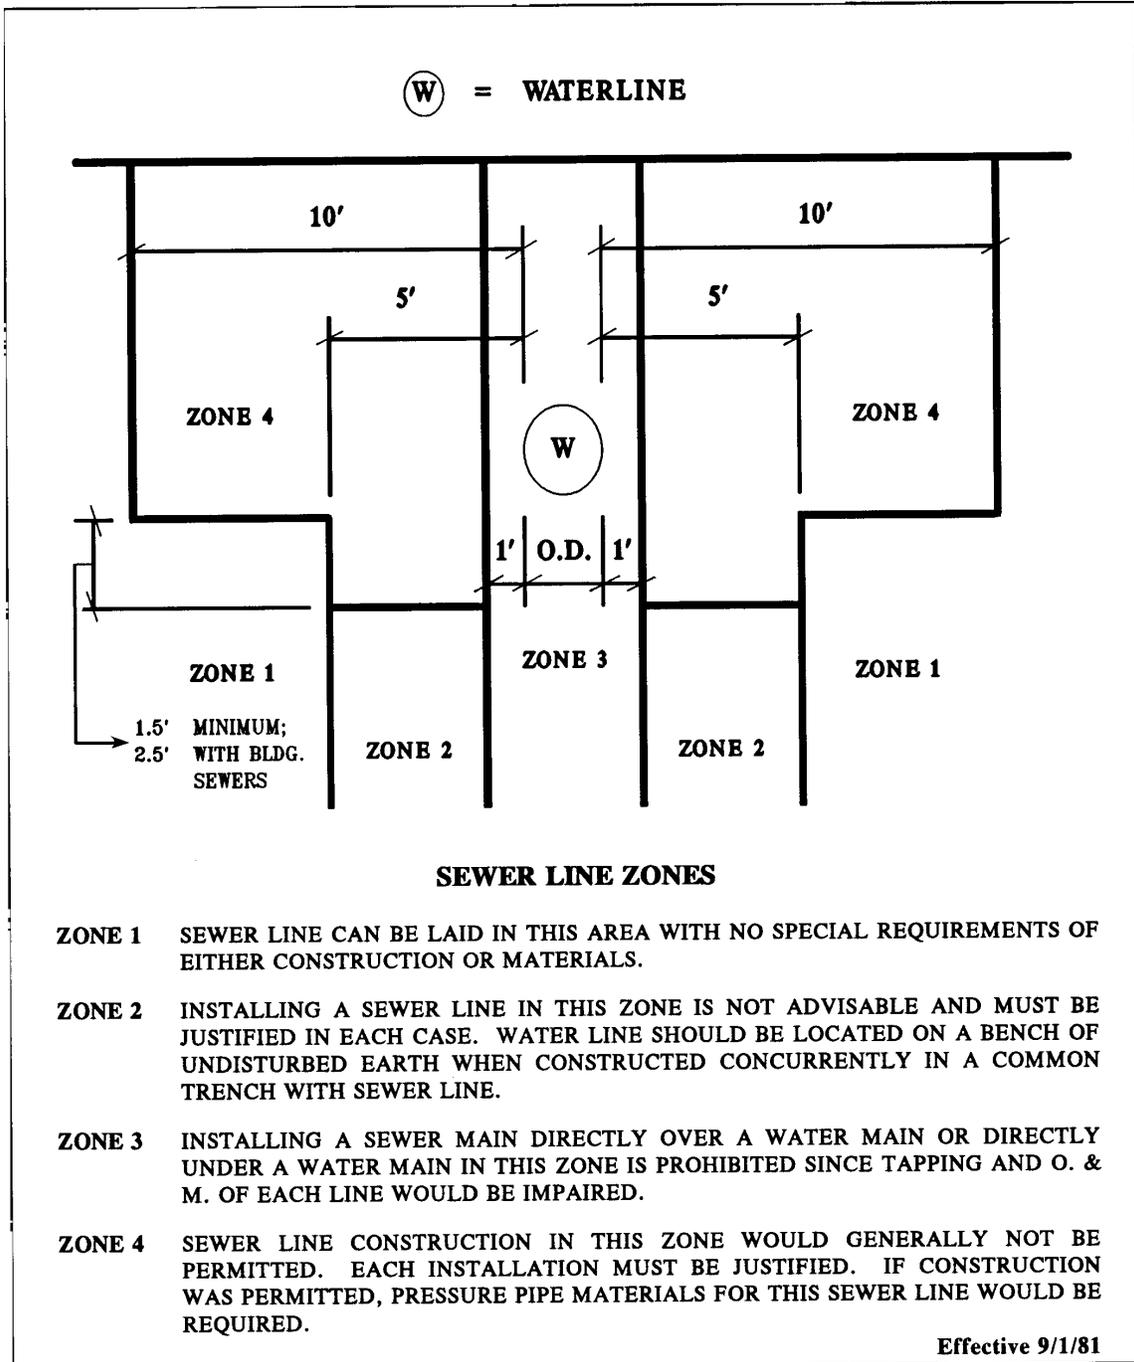

FIGURE A-1
- (i) Sewer lines should conform to Figure A-1.
- (ii) Common trench construction for water and sewer should be avoided where practical. Where used, the minimum pipe separations of Figure A-1 should be maintained.